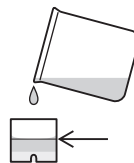

Fig.3
3. Pour the sample in the beaker into the cell with 1.5mL (up to the line). (Fig.3)